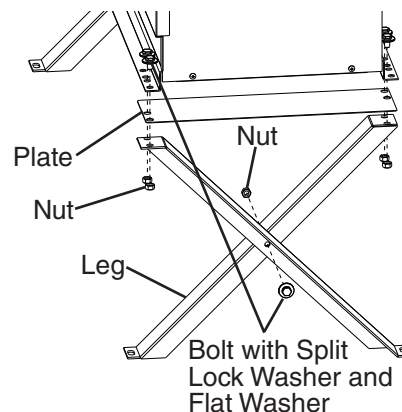

Fig. 12
- 1) Assemble 2 sets of legs using the legs, bolts, and nuts provided. See Fig. 12.